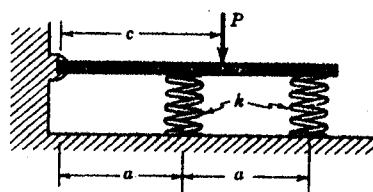

Figure 3
3. A stiff beam of length  $2a$  is hinged at one end and supported by two springs of spring constant  $k$  as shown in Figure 3. Where should a force  $P$  be applied so that the stiffness of the system (defined as  $P$  divided by the deflection under  $P$ ) is  $20k/9$ ? Please express the answer  $c$  in terms of  $a$ . (10%)